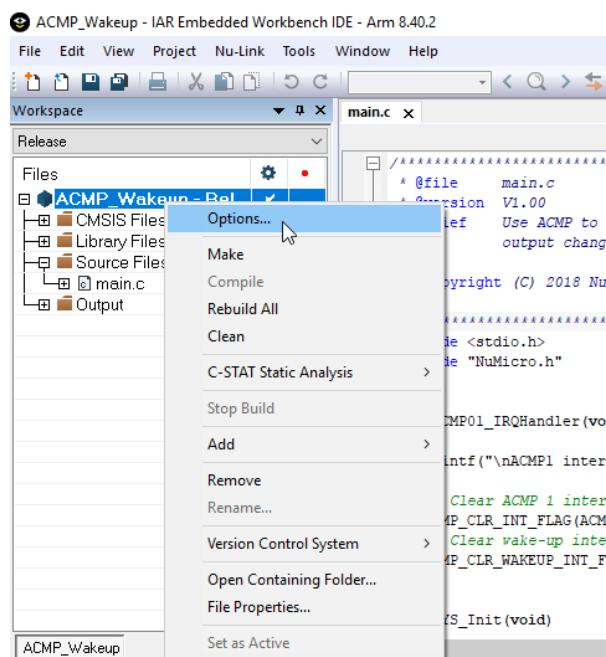
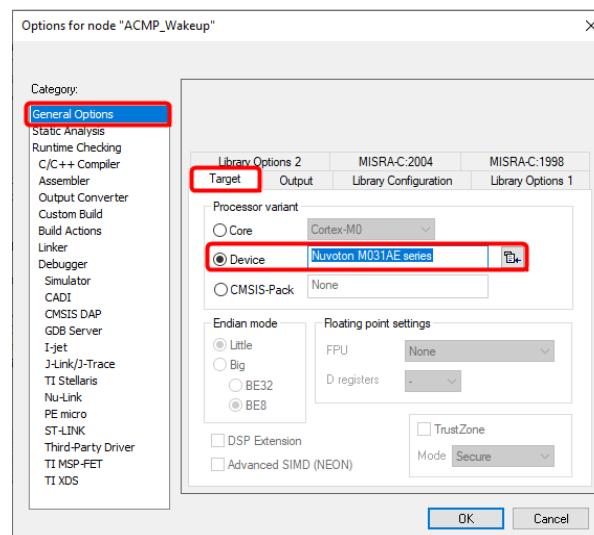

Figure 4-14 Options Selection
Figure 4-15 IAR EWARM Target Chip Selection
Step 3: In the **Target** tab of the **General Options** page (through invoking **Project → Options**), click the button in the right of the **Device** option (make sure the **Device** option is enabled), and select “**Nuvoton → Nuvoton M031AE series**” as the target chip (M031AE series is this case), as shown in Figure 4-14 and Figure 4-15.